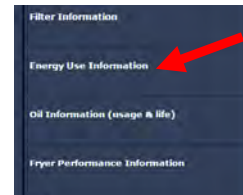

Figure 21
22. Clicking on Energy Use Information displays the Total Fryer On Time, Average Fryer On Time, Total Heat On Time, Total Idle Time and Average Idle Time per vat (see Figure 21).